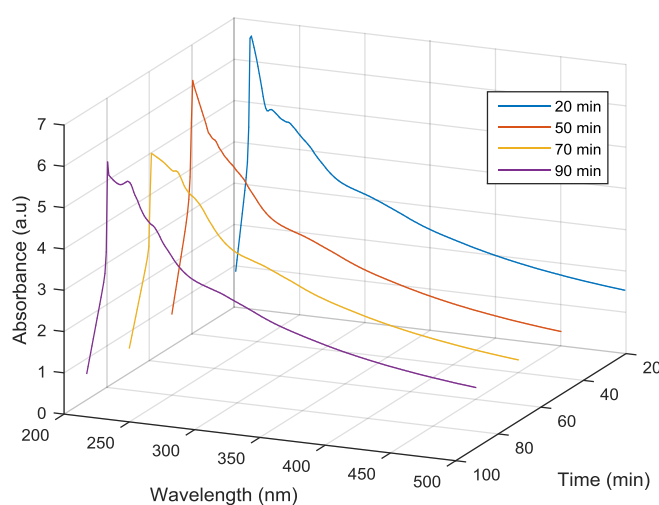

Fig. S1 Time-dependent absorbance change of 0.5 mg/mL graphene oxide.
Graphene oxide (GO) stock solution was prepared by adding 5 mg of GO in 10 mL of HPLC water. This solution was ultrasonicated for 50 min. Next, a diluted solution was prepared by adding 1 mL of the above solution to 9 mL of HPLC water. This diluted solution was ultrasonicated for 20 min. The UV-Vis spectra of the graphene oxide diluted solution were determined at varying times (Fig. S1). The solution was initially kept idle for 20 min. It was then placed in a quartz cuvette of 1 cm path length using a scanning wavelength range of 200-750 nm with a step size of 1 nm. Four different UV-Vis spectra were taken at intervals of 10 min, 20 min and 30 min. It was observed that for all the spectra the prominent peak is at 218 nm owing to the  $\pi \rightarrow \pi^*$  transition of the C=C bond and the shoulder peak is at 297 nm corresponding to the  $n \rightarrow \pi^*$  transition of the C=O bond. The absorption values decreased because of the settling of graphene oxide particles with time. Table S1 gives the absorption values for the corresponding times. After 90 min the absorption value remained approximately constant since all the undispersed GO particles must have settled down by this time.